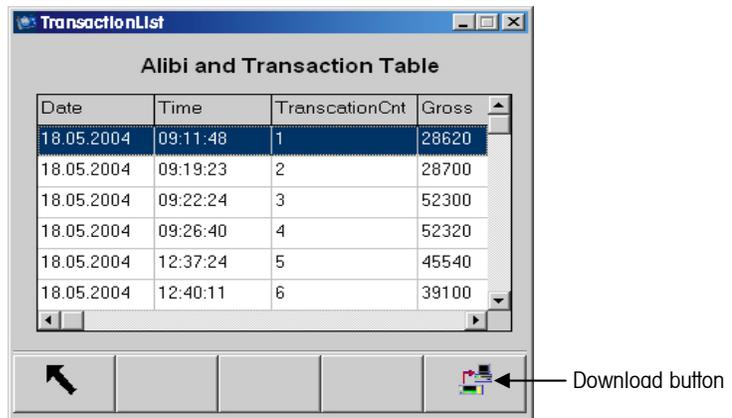

Figure B-20: Alibi & Transaction Table Data
- Double click on Alibi & Transaction Table. The transaction list displays the Alibi & Transaction Table data (Figure B-20).
- To download the contents of the Alibi & Transaction Table to a Microsoft Excel spreadsheet, click on the Download Button (Figure B-20). The Export Success dialog box (Figure B-21) displays to indicate the table data was successfully retrieved.